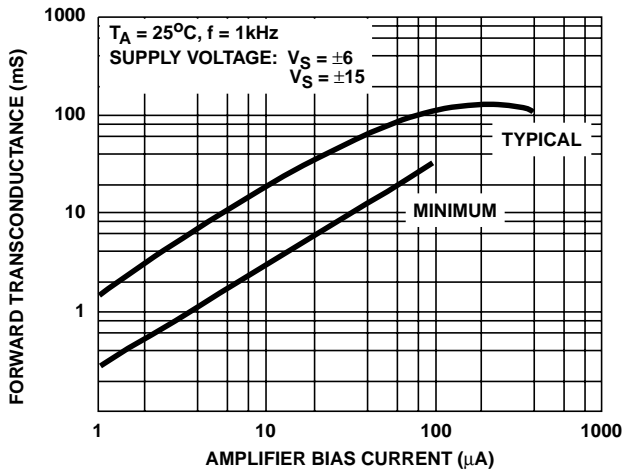

FIGURE 11. FORWARD TRANSCONDUCTANCE vs AMPLIFIER BIAS CURRENT
2. **Selection of Suitable Amplifier Bias Current.** The amplifier bias current is selected from the minimum value curve of transconductance (Figure 11) to assure that the amplifier will provide sufficient gain. For the required g_{21} of $5.5mS$ an amplifier bias current I_{ABC} of $20\mu A$ is suitable.